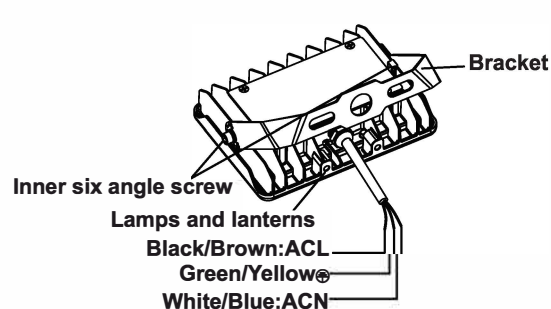

figure 1.3
- Step 2: Finish the wiring connection according to the proper method of connection (note: positive wire, negative wire, and ground wire), then put the wire into the fixture pole; (figure 1.3)